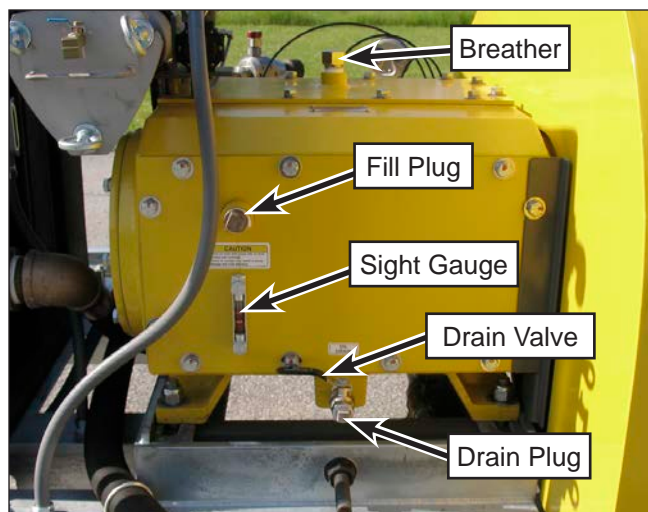

Figure 97: Oil Check and Change.
1. Locate the sight gauge (Figure 97) on the back of the power end case. With the pump off (for 5 to 8 hours), the oil should be at the Full level.
1. With the engine off, remove the drain plug (Figure 97) from the oil drain valve located on the back of the power end case.